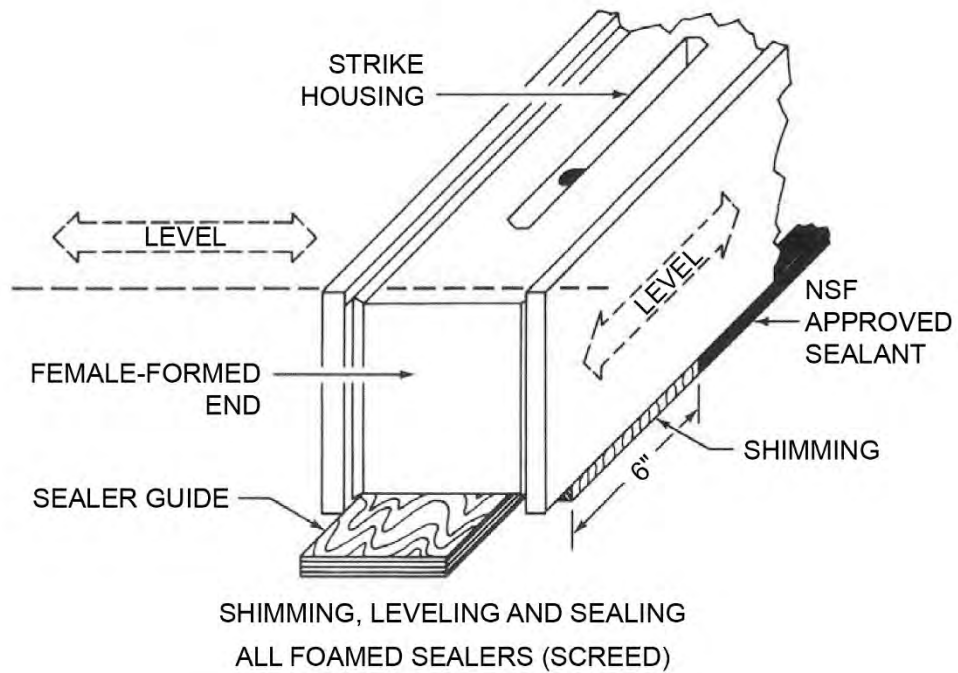

Figure 4
**IMPORTANT:** EVERY SECTION OF SEALER (SCREED) MUST BE SUPPORTED AT LEAST EVERY 24" BY EITHER THE BUILDING FLOOR OR BY SHIMMING. Avoid using shimming strips less than 6" long whenever possible (see Figure 4, p. 21).